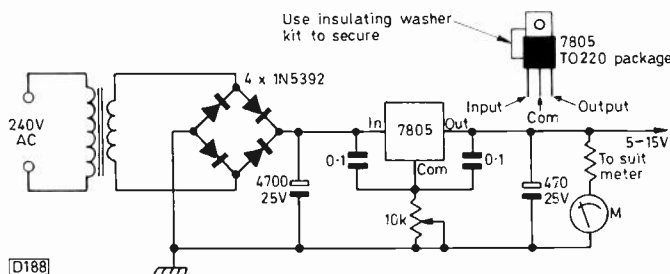

Fig. 3: Simple 5-15V regulated power supply circuit.
(4) A budget variable stabilised power supply giving 1-2A at 5-15V can be built easily using a 7805 regulator secured to a good-sized heatsink and a mains transformer obtained from a scrap monochrome portable. Fig. 3 shows a basic circuit – the 10kΩ potentiometer sets the output. For a higher output voltage use a 7812 regulator with a higher-voltage transformer.
(5) There have been some excellent articles in the magazine on converting Sony sets from GCS to transistor operation in the chopper and/or line output stage. I recently carried out such a conversion with a 20in. set and noticed that the output transistor was getting excessively hot. After trial and error the perfect device was found. Instead of a BU208A, use an R2540 (the Syclops transis-